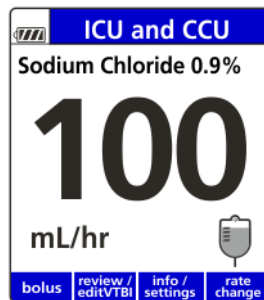

Figure 76. Infusion Running Screen.
1. At the Infusion Running screen, press the **rate change** soft key. See Figure 76.